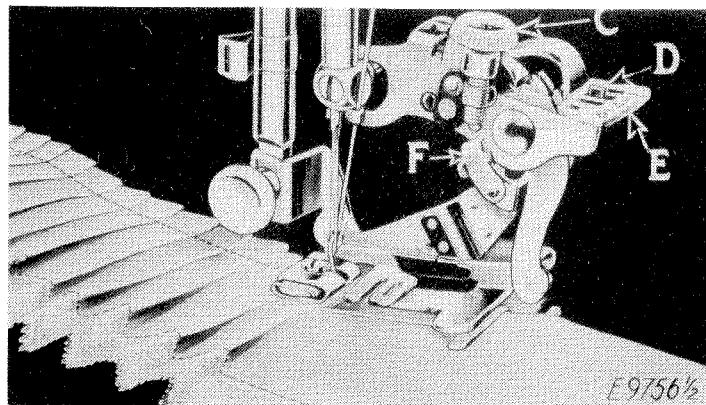

FIG. 45.
adjusting finger (F, Fig. 45). To make a wider plait, move the adjusting finger (F) back or toward the needle and turn the adjusting screw (C) downward. To make a smaller plait, turn the adjusting screw (C) upward. The distance between plaits is regulated by the length of stitch.